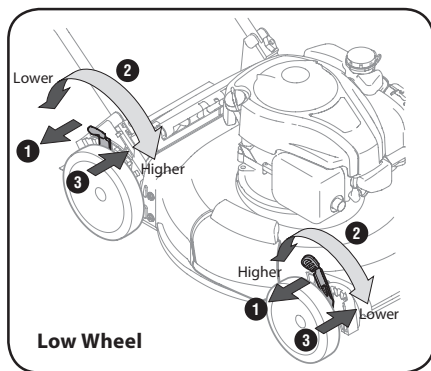
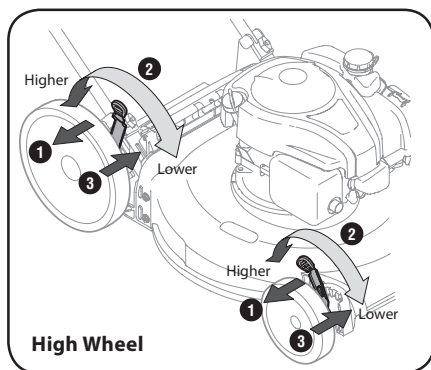

Figure 2-11
Figure 2-12
2. Move lever to desired position for a change in cutting height. See Figure 2-11 and Figure 2-12.
3. Release lever towards deck. See Figure 2-11 and Figure 2-12.